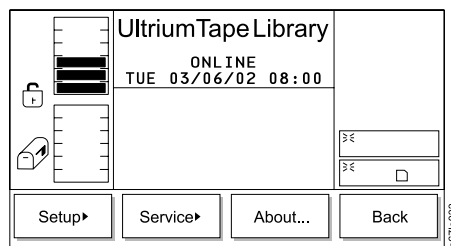

Figure 163. Main Menu (alternate screen)
1. From the Main Menu's initial screen, press the button below the **More** softkey. The Main Menu's alternate screen displays (see Figure 163).